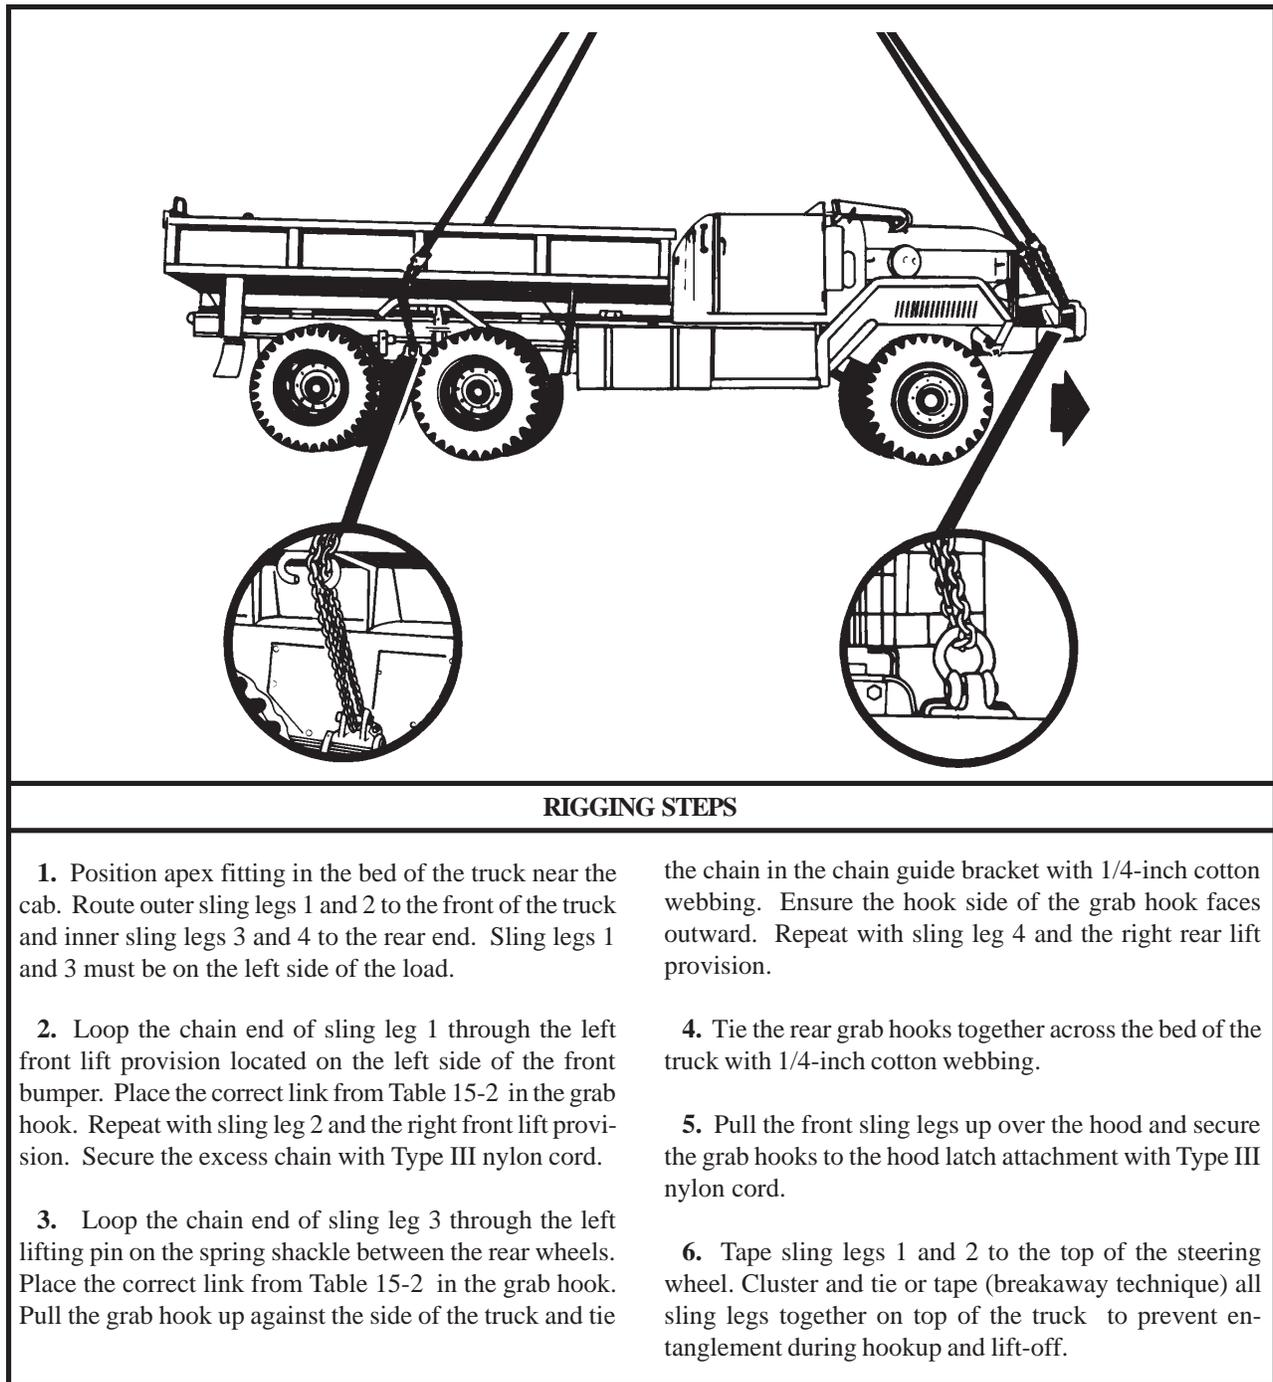

Figure 15-2. M35A1/2 2 1/2-Ton Cargo Truck with Winch
(2) **Rigging.** Rig the load according to the steps in Figure 15-2.